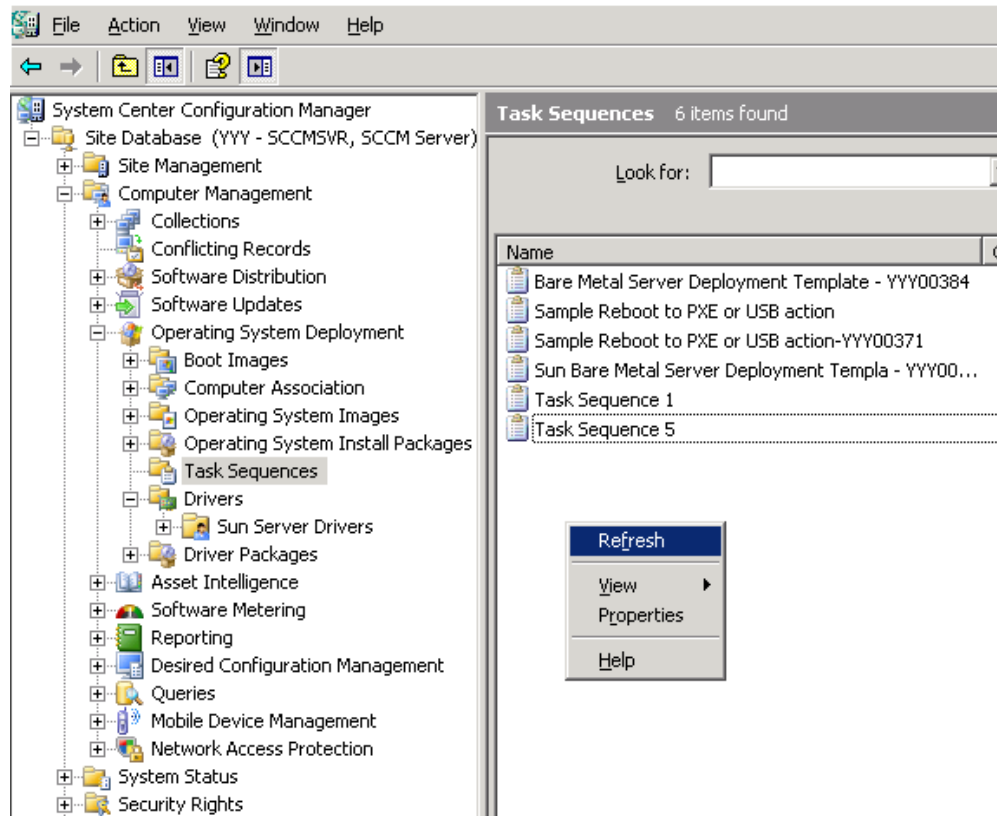

Figure 28: Refresh the List
- Click cancel and go back to the Administrator console to refresh the list of task sequences in the task sequence pane to see this newly created task sequence, as shown Figure 28